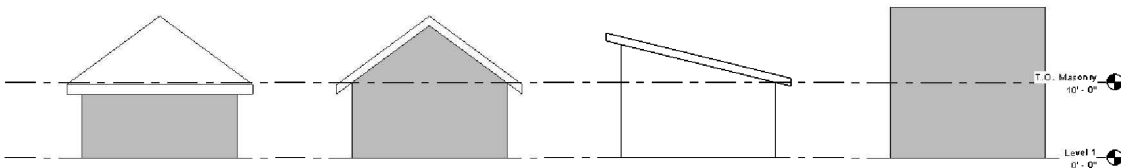

FIGURE 6-1.10 South elevation – shed roof
37. Switch to the **South** elevation view (Figure 6-1.10).